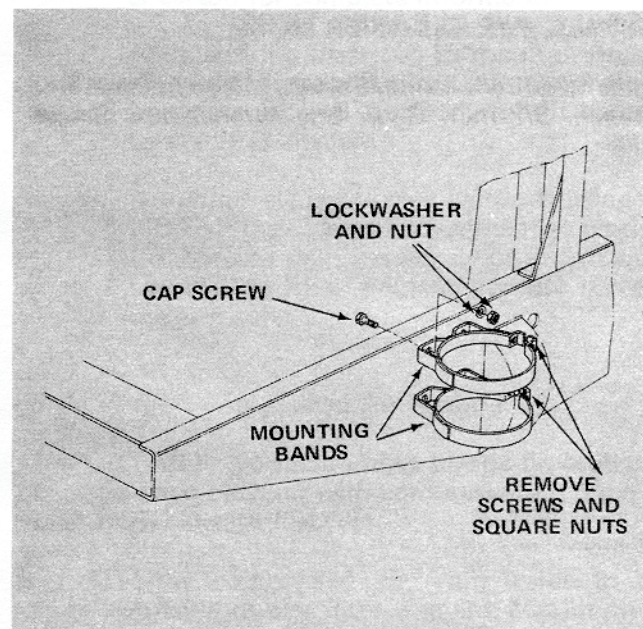
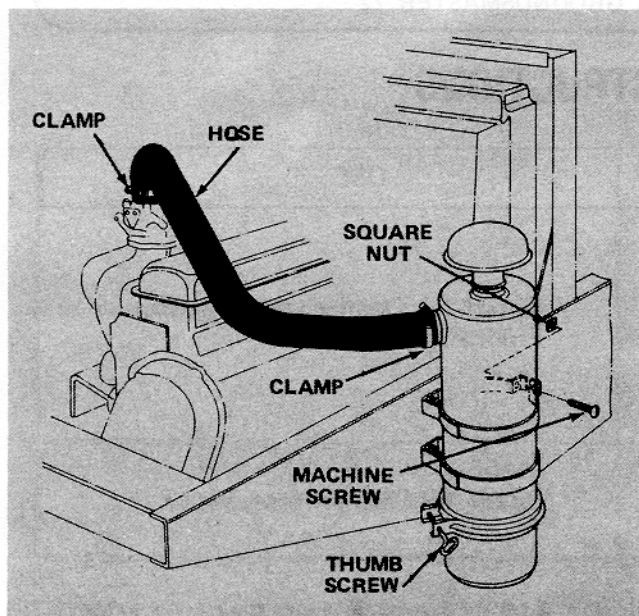
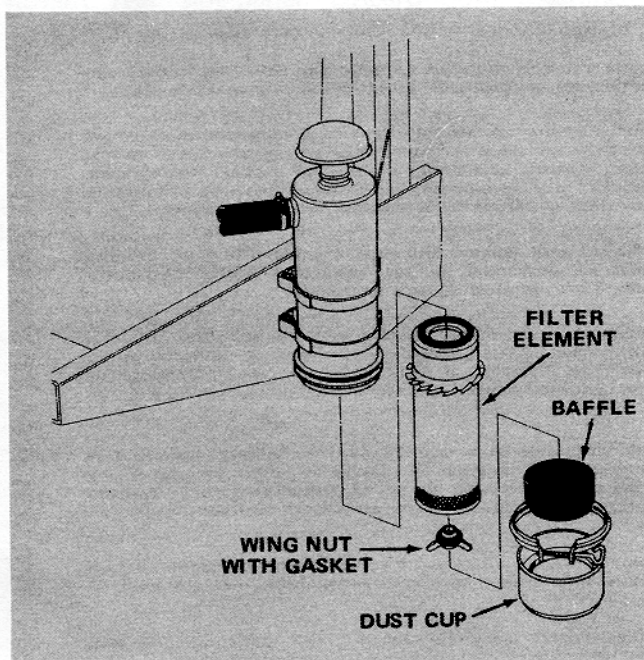

Figure 2
Figure 3
Figure 4
1. Secure both mounting bands against side-panel with four cap screws, lock washers and nuts (Fig. 2). Assure head of cap screw is on inside of the side-panel and screws at side of mounting bands face toward front of machine.
2. Remove two round head machine screws and square nuts from mounting bands (Fig. 2). Slide air cleaner assembly between mounting bands (Fig. 3). Reinstall two round head machine screws and square nuts, but do not tighten them (Fig. 3).
3. Loosen thumb screw (Fig. 3) at bottom of air cleaner until retaining ring rotates.
2. Slide both hose clamps onto hose (Fig. 3). Push ends of hose fully onto air cleaner and carburetor flanges, and retain hose in place with hose clamps (Fig. 3). Tighten hose clamp screws securely so a good seal is formed between inside of hose and mounting flanges.
3. Tighten the two round head machine screws and square nuts retaining air cleaner between mounting bands (Fig. 3).
4. Rotate thumb screw behind air cleaner; then tighten thumb screw securely (Fig. 3).
5. Push air inlet cap onto top of air cleaner (Fig. 3).
1. Loosen thumb screw until dust cup and baffle can be removed (Fig. 3). Separate dust cup and baffle (Fig. 4).
2. Remove wing nut w/gasket and slide filter element out of air cleaner body (Fig. 4).